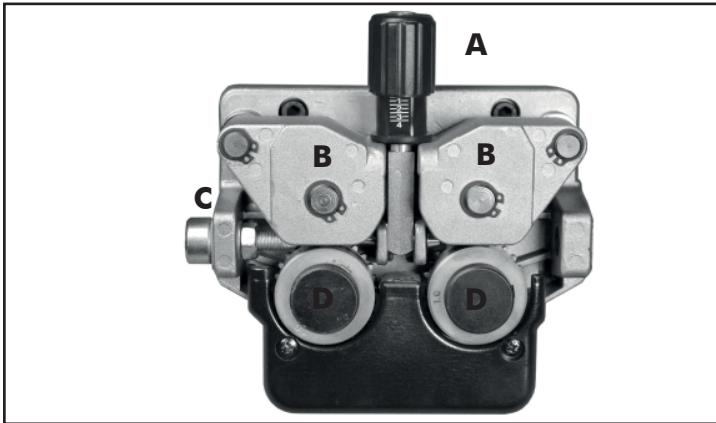

Figure 13 - Wire Feeding Motor
- Loosen and lower the plastic knob (A) (Figure 13). Open the pressure arm (B) of the feeder. (Extract the wire from the torch liner if some wire is left into the torch).